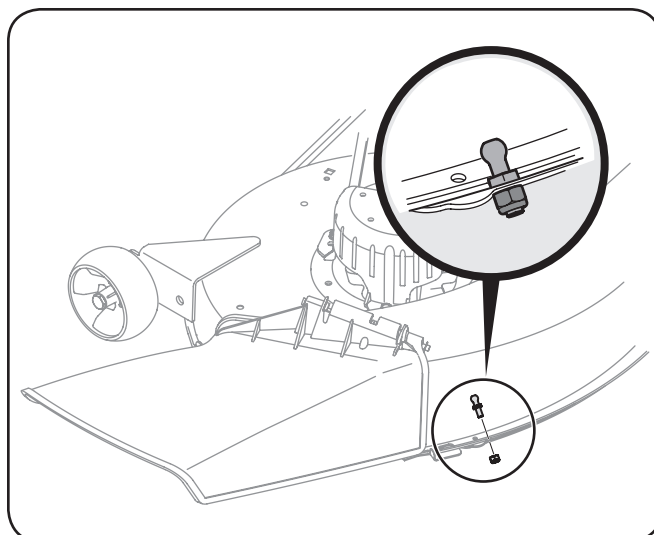

Figure 4-18
10. Install the ball pin (911-04069) from hardware pack 689-00091 into the hole in the front of the mower deck as seen in Fig. 4-18, and secure with a flange lock nut (712-04064), from the same hardware pack.